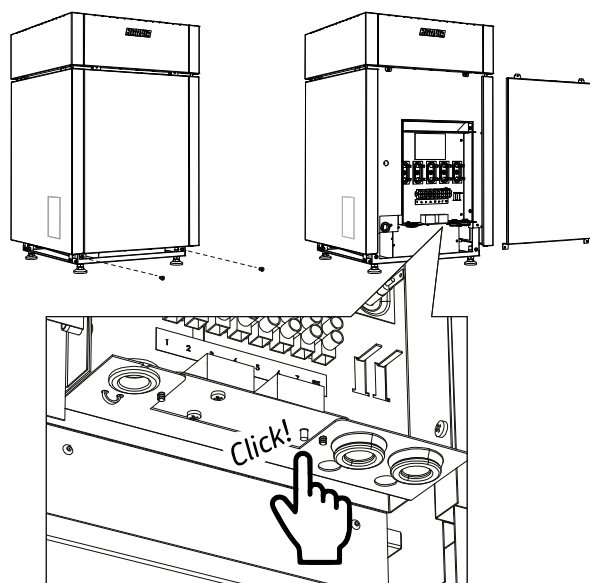

Figure 14. Steamer overheat protector reset
- Check that the overheat protector has not tripped. (Figure 14. Steamer overheat protector reset)
- Instructions for resetting the steamer overheat protector (Figure 14. Steamer overheat protector reset)